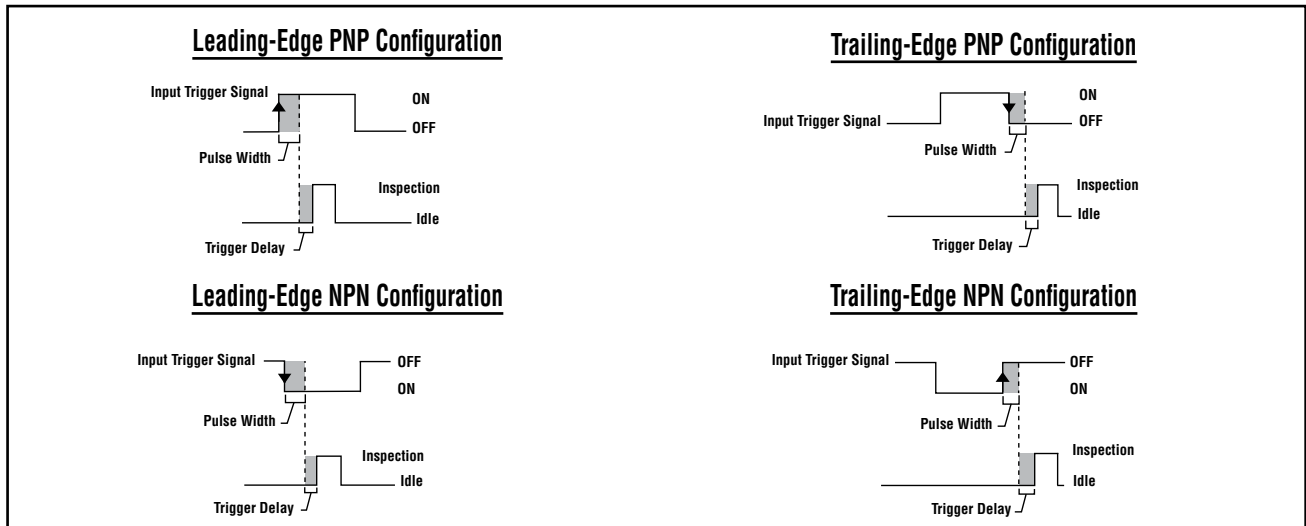

Figure 3-4. PNP and NPN Leading-Edge and Trailing-Edge trigger inputs
- The Sensor can be set to respond to either the leading or trailing edge of the trigger pulse (see Figure 3-4).